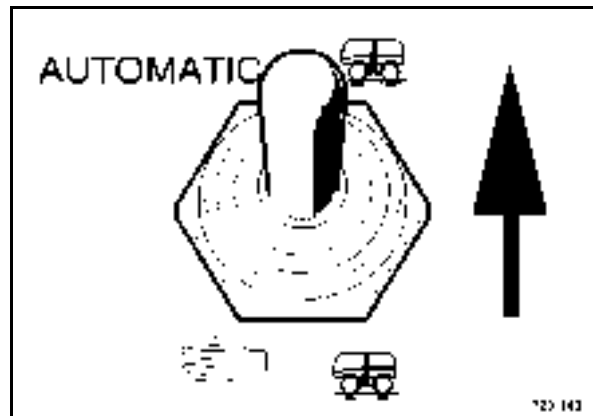

Fig. 48
- Set the vibration switch (Fig. 48) to "Automatic".